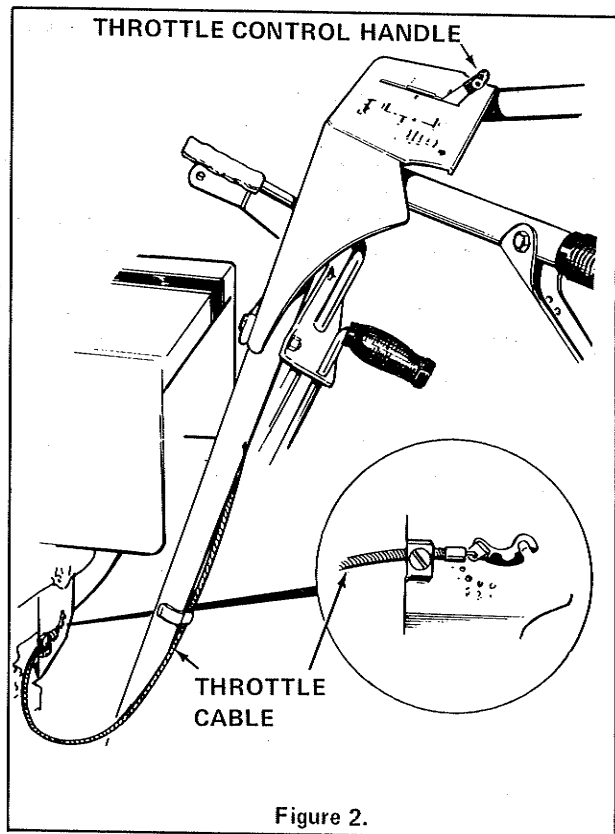

Figure 2.
2. See Figure 2. Place throttle control handle in stop position and secure loose end of throttle cable to engine as shown.